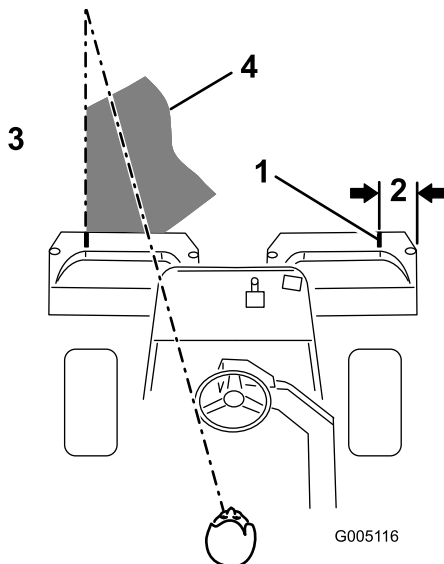

Figure 24
**Note:** To assist in maintaining a straight line across the green and keeping the machine an equal distance from the edge of the previous cut, imagine a sight line approximately 1.8 to 3 m (6 to 10 ft) ahead of the machine to the edge of the uncut portion of the green (Figure 24). Include the outer edge of the steering wheel as part of the sight line; i.e., keep the steering wheel edge aligned with a point that is always kept the same distance away from the front of the machine.